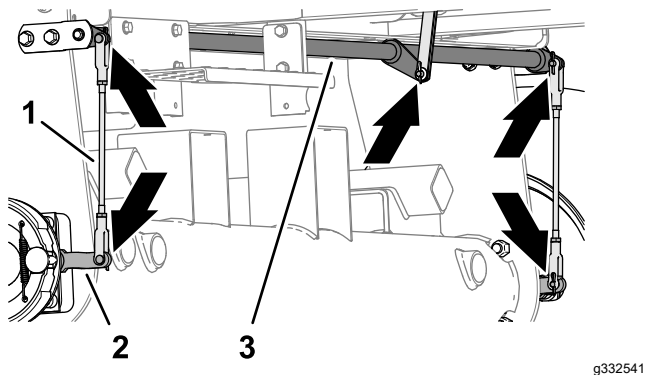

Figure 68
1. Inspect the left and right brake-rod assemblies (Figure 68) for damage and wear.
2. Inspect the brake pivot shaft (Figure 68) for damage and wear.